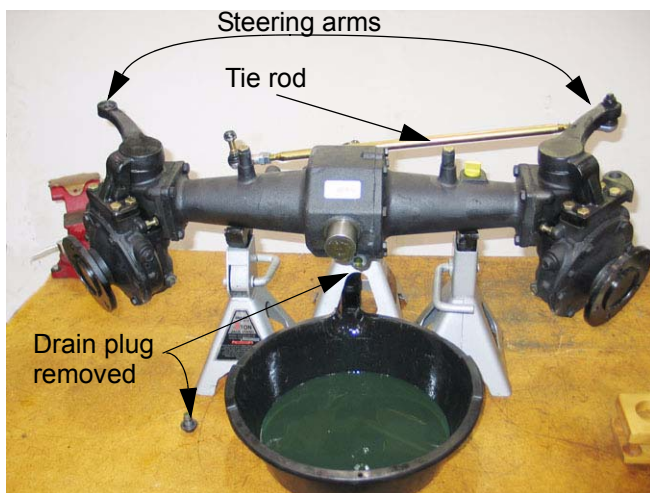

Figure 9.3
9.3. If not previously done, drain the gear lube from main housing and drop-axle housings, as described in the "REMOVAL" section of this manual. See Figure 9.3.